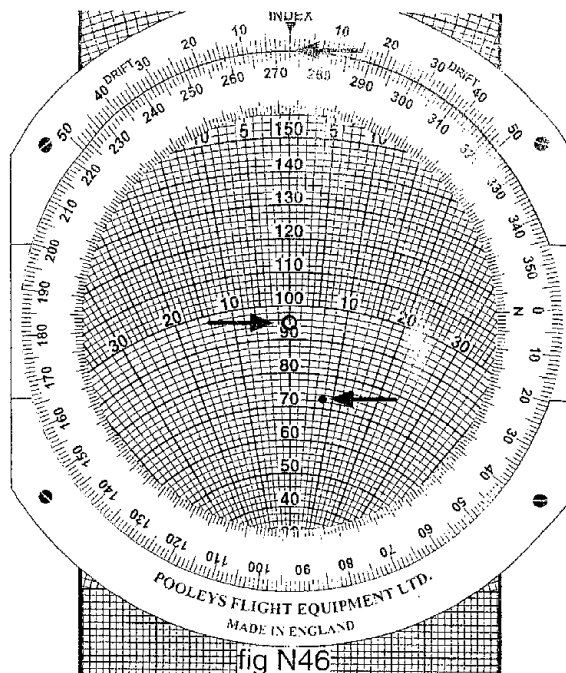

fig N46
**Note:** The soft pencil mark has now moved 8° to the right (fig N46).